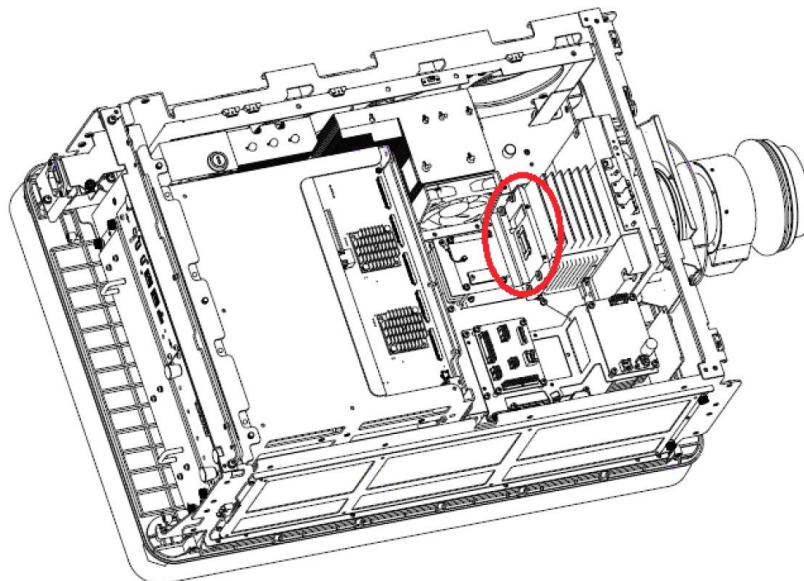

Figure 71: DMD Convergence adjusting mechanism
Step 2: The convergence adjusting mechanism of the light machine is indicated by the Red circle in **Figure 71**. It can be adjusted by using the M3 Straight screwdriver.